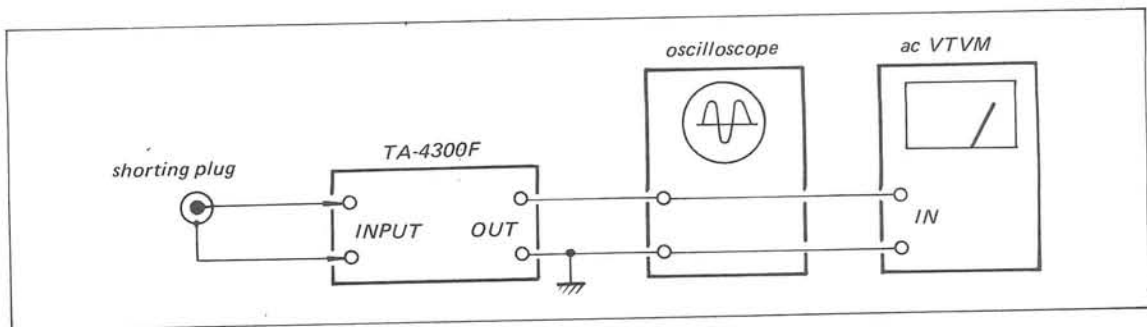

Fig. 3-4 Noise level check test setup
1. With the equipment connected as shown in Fig. 3-4, measure each OUTPUT jack's noise level with a VTVM as directed in the Table 3-4.